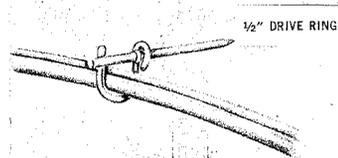

Fig. 6B — Drive Rings
- Install drive rings in wood surfaces as indicated in Fig. 6B.